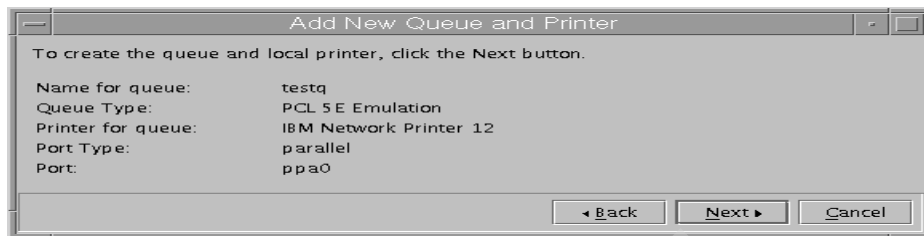

Figure 33. The final confirmation
12. Verify all information in the panel shown in Figure 33 on page 213. If everything is correct, click **Next**.